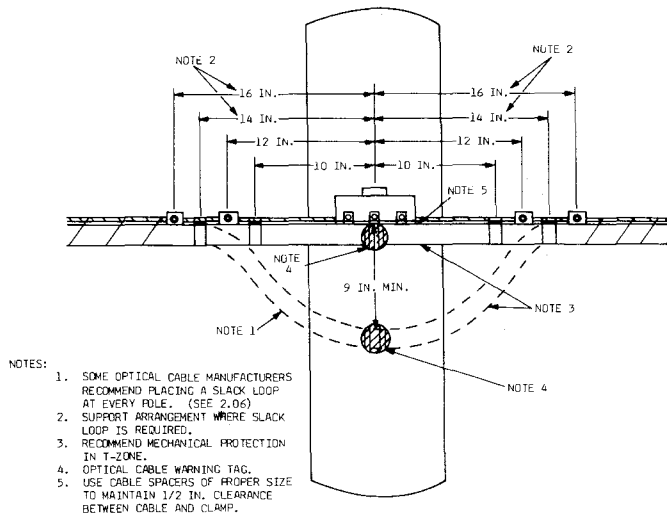

Fig. 1A - Optical Cable Lashed to Strand
- Add Fig. 1A support arrangement for optical cable at in-line pole.
2.07 Figures 1A and 8A can be used as a guide for making slack loops at locations not shown in this practice.
NOTE: Support arrangements in TABLE A for Metallic Conductor Cables also apply to optical cable unless noted otherwise. (See Par. 2.03 on mechanical protection and 2.06 for bending radius) where a slack loop is required FIG. 1A & 8A can be used as a guide.